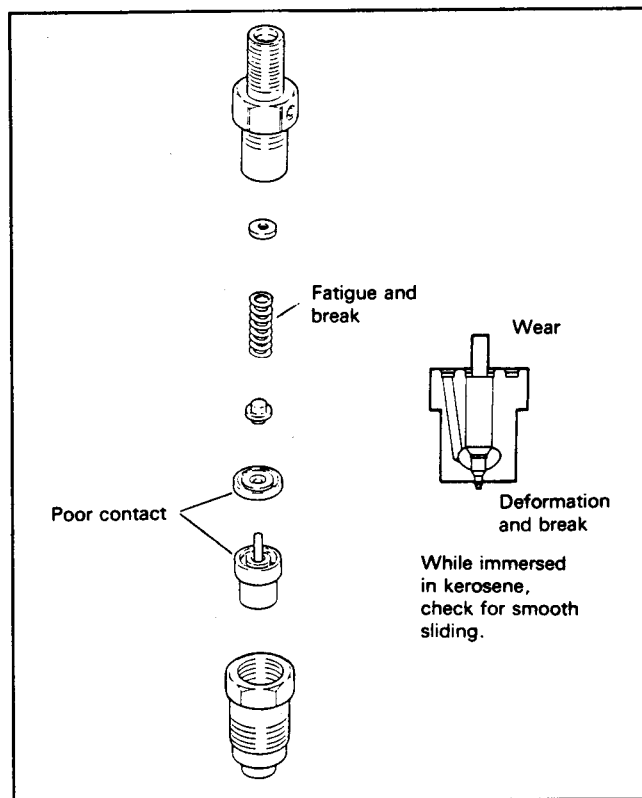

Figure 65
4. Inspect the removed parts (Fig. 65). Replace any worn or damaged parts.